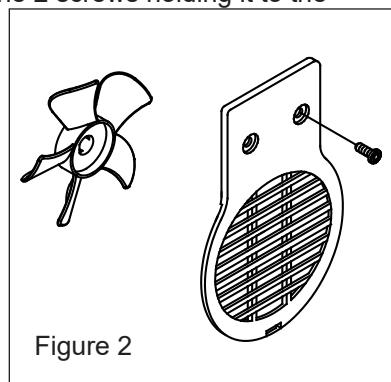

Figure 2
STEP 5. Remove the fan guard by unscrewing the 2 screws holding it to the housing. See figure 2.